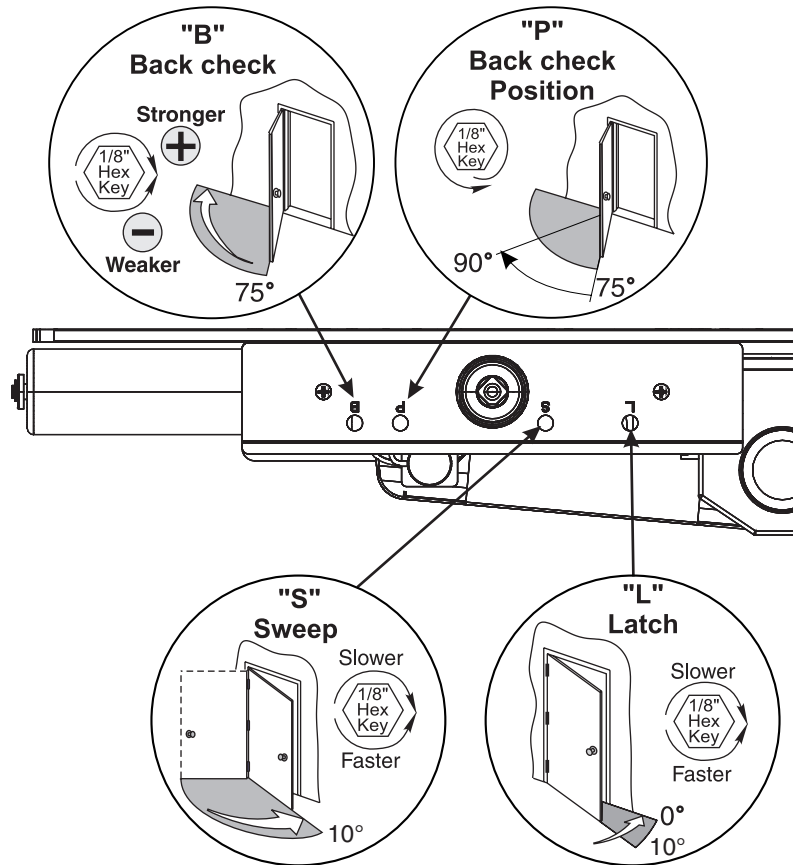

Figure 24 View from ceiling looking downward
1. Closing Speed Controls (Figure 24)
2. Opening Cycle (Figure 24)